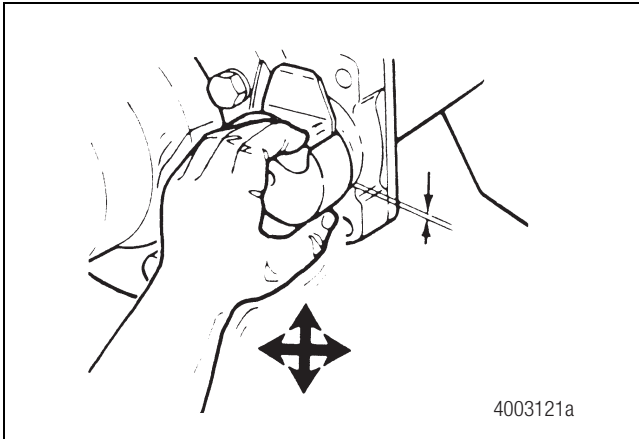

Figure 5.6
1. Use a dial indicator to check the up-and-down and side-to-side end play of the camshaft to determine if you must replace the camshaft bushings. If the total movement is more than 0.030-inch (0.76 mm), replace the bushings. Figure 5.6.